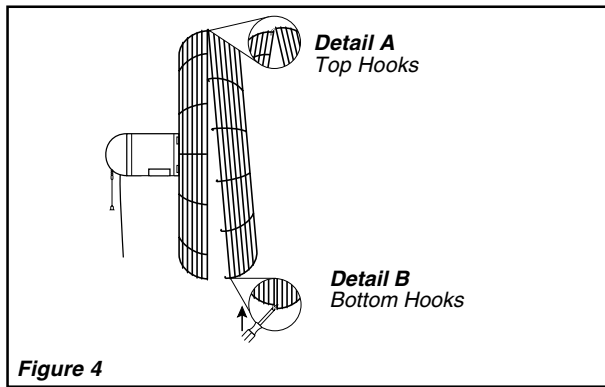

Figure 4
9. Hold the Front Grill so that the name, in the center, is right side up and straight across. **Starting at the top:** Fasten Front Grill to Rear Grill by sliding the Hooked Wires on the Front Grill over the Outermost Ring on the Rear Grill. (Figure 4 / Detail A)
**The bottom most Hooks will require the use of a Flathead Screwdriver to complete assembly. Stand behind Fan.** Slip the Flat of the Blade between the Front and Rear Grills, next to one of the unfastened Hooks. (Figure 4 / Detail B) Pull Screwdriver handle upwards towards the Rear Grill. Slip the Front Grill Hook over the Rear Grill Outer Ring with a push. Repeat procedure with remaining Hooks. Caution: Be careful not to bend any wires on Grills or pinch your hands during assembly.